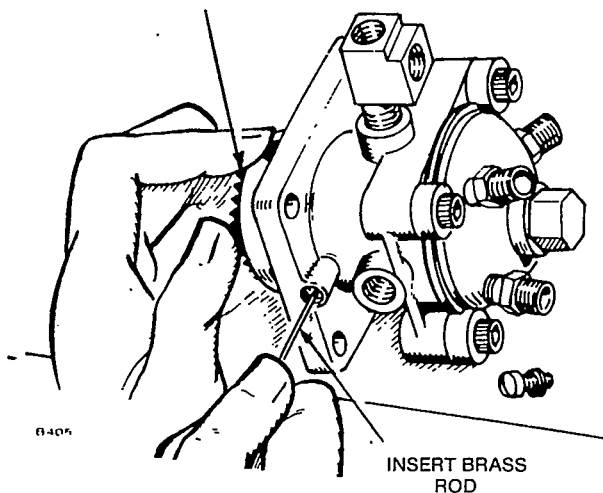

FIGURE 30. LOCKING THE DRIVE GEAR
2. Remove screw (Figure 30) on side of injection pump. Rotate drive gear until a 0.125 inch (3.175 mm) brass rod can be inserted into drive gear slot. This locks the gear in position, when installing injection pump on engine.